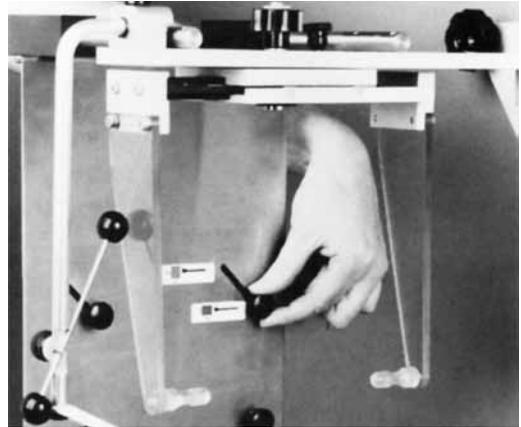

Figure 15
8. Remove the four black knobs on the cassette carrier main plate (Figure 15) and remove the upper and lower cassette carriers.